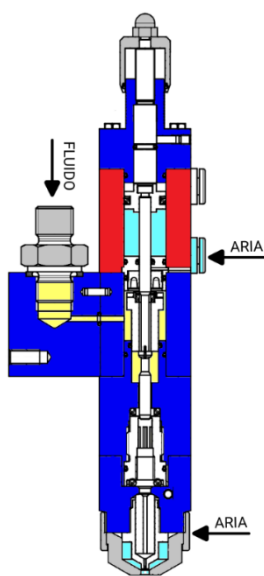

Figure 04 – Nebulization phase
- The nebulization command is given, then air is sent inside the special inlet by means of a 3/2 solenoid valve (Figure 04);
- The system swaps the airflow in the solenoid valve 5/2, letting air in from the charging inlet (Figure 04)